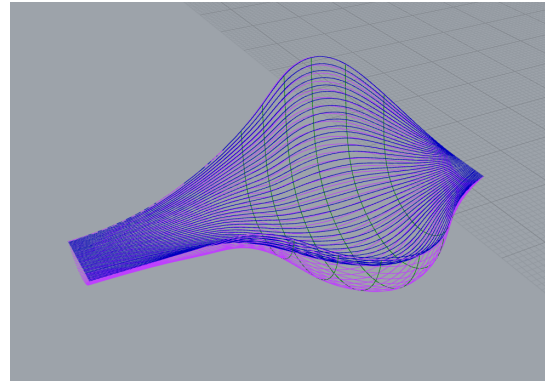

FIG. 3
- Extracted isocurves from each surface in both U and V directions after rebuilding the surface with the divisions I thought were correct (Note: In previous iterations, I divided the surface as well) **FIG. 3**